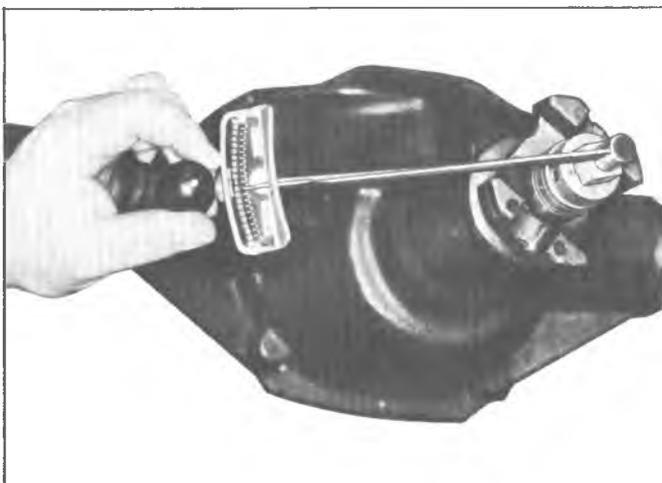

Fig. 24A—Measuring Rotating Torque
10. Check preload by using an inch pound torque wrench such as J-5853 as shown in Figure 24A.